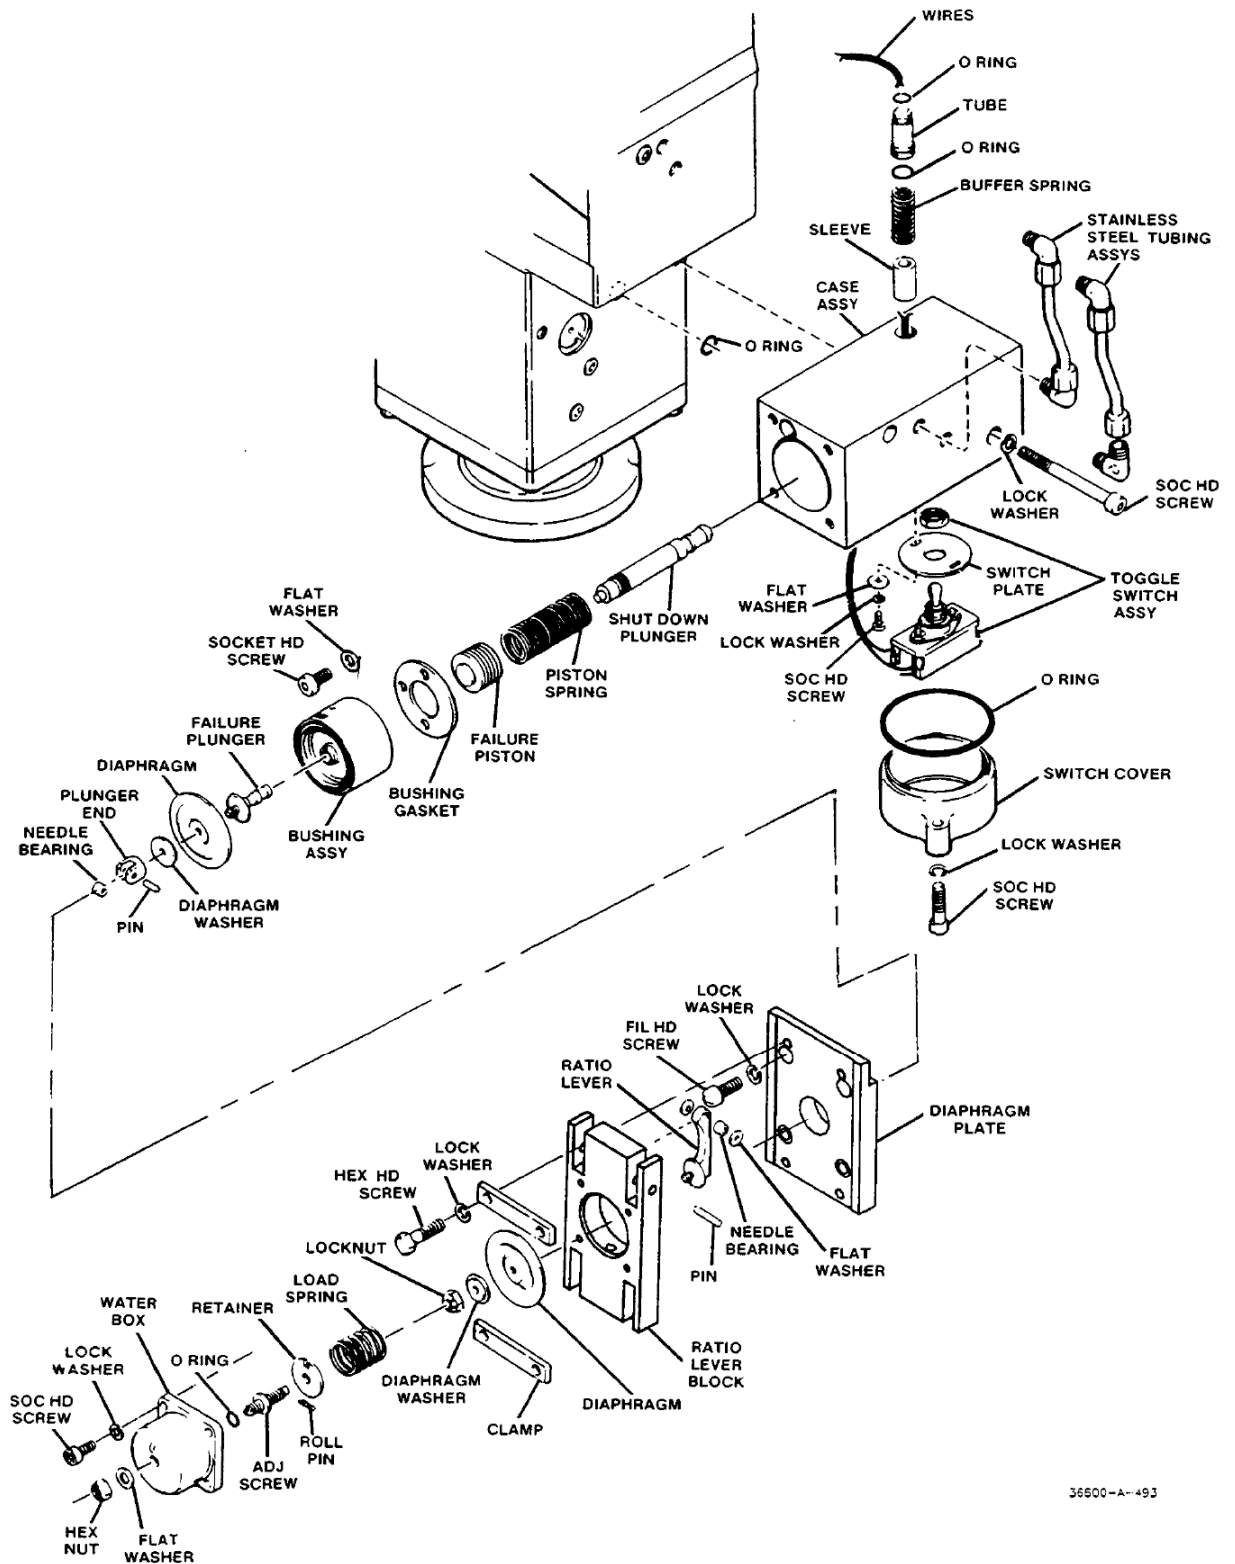

Figure 5-66. Water Box
40. See Figure 5-66. When assembling the water box, install both diaphragms so that fabric sides face each other. Install diaphragm washers so that the side with the radius is against the diaphragm.